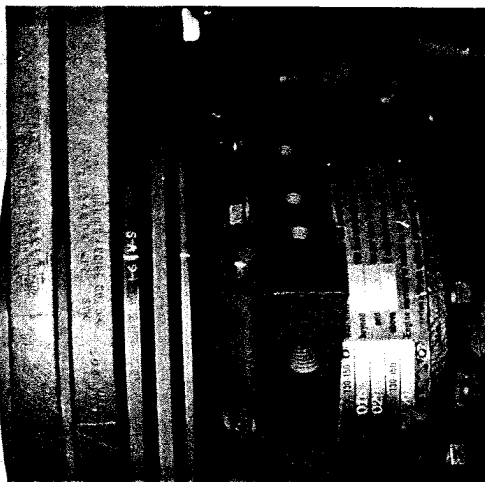

Fig. 2-44, (N114220). Valve set timing marks on NH engine
3. Bar engine in direction of rotation until a valve set mark (1, Fig. 2-44) aligns with the boss (2) on the gear case cover. Example: A or 1-6 "VS." This location is marked with a notch in the drive pulley.